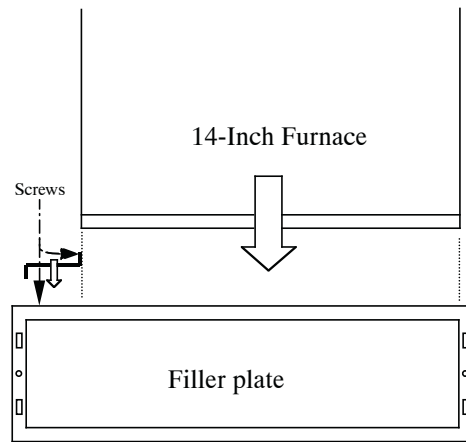

Fig. 17 - 14-in. Furnace with Filler Plates, Off-Set to Right
- b. Furnace offset on filter cabinet (optional). Install 1 filler plate on the filter cabinet opposite side from the desired furnace location. Fig. 17 shows this installation option offset to the right.
- e. For the furnace offset mount (see Step b), drive 3 self-tapping, 1/2-in. screws (not provided) into the furnace through the holes in the flange. (See Fig. 17.)